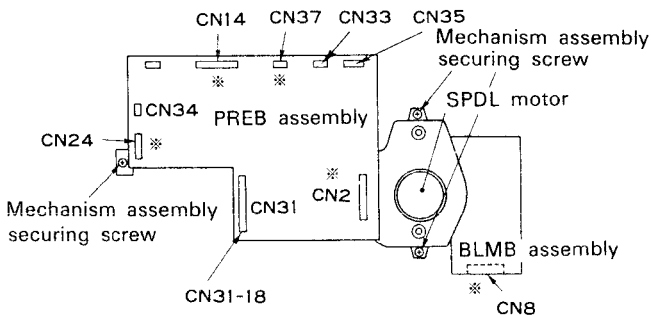

Fig.6-1 PREB and BLMB assembly connectors.
6. Remount the mechanism assembly into the player and connect the PREB and BLMB assembly connectors, leaving however connector CN34 unconnected (see Fig.6-1).